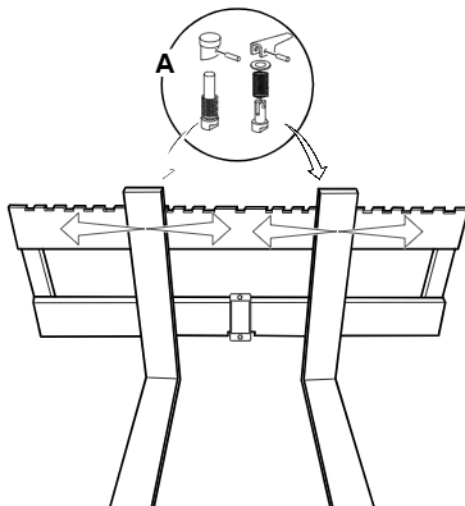

Fig 46.
- 4 Release locking pins **A** and slide the forks to the desired position using suitable lifting equipment. ⇒ Fig 46. \(□ 66\)
Note: Your machine will have either twist and pull or pull type fork locking pins. ⇒ Fig 46. \(□ 66\)